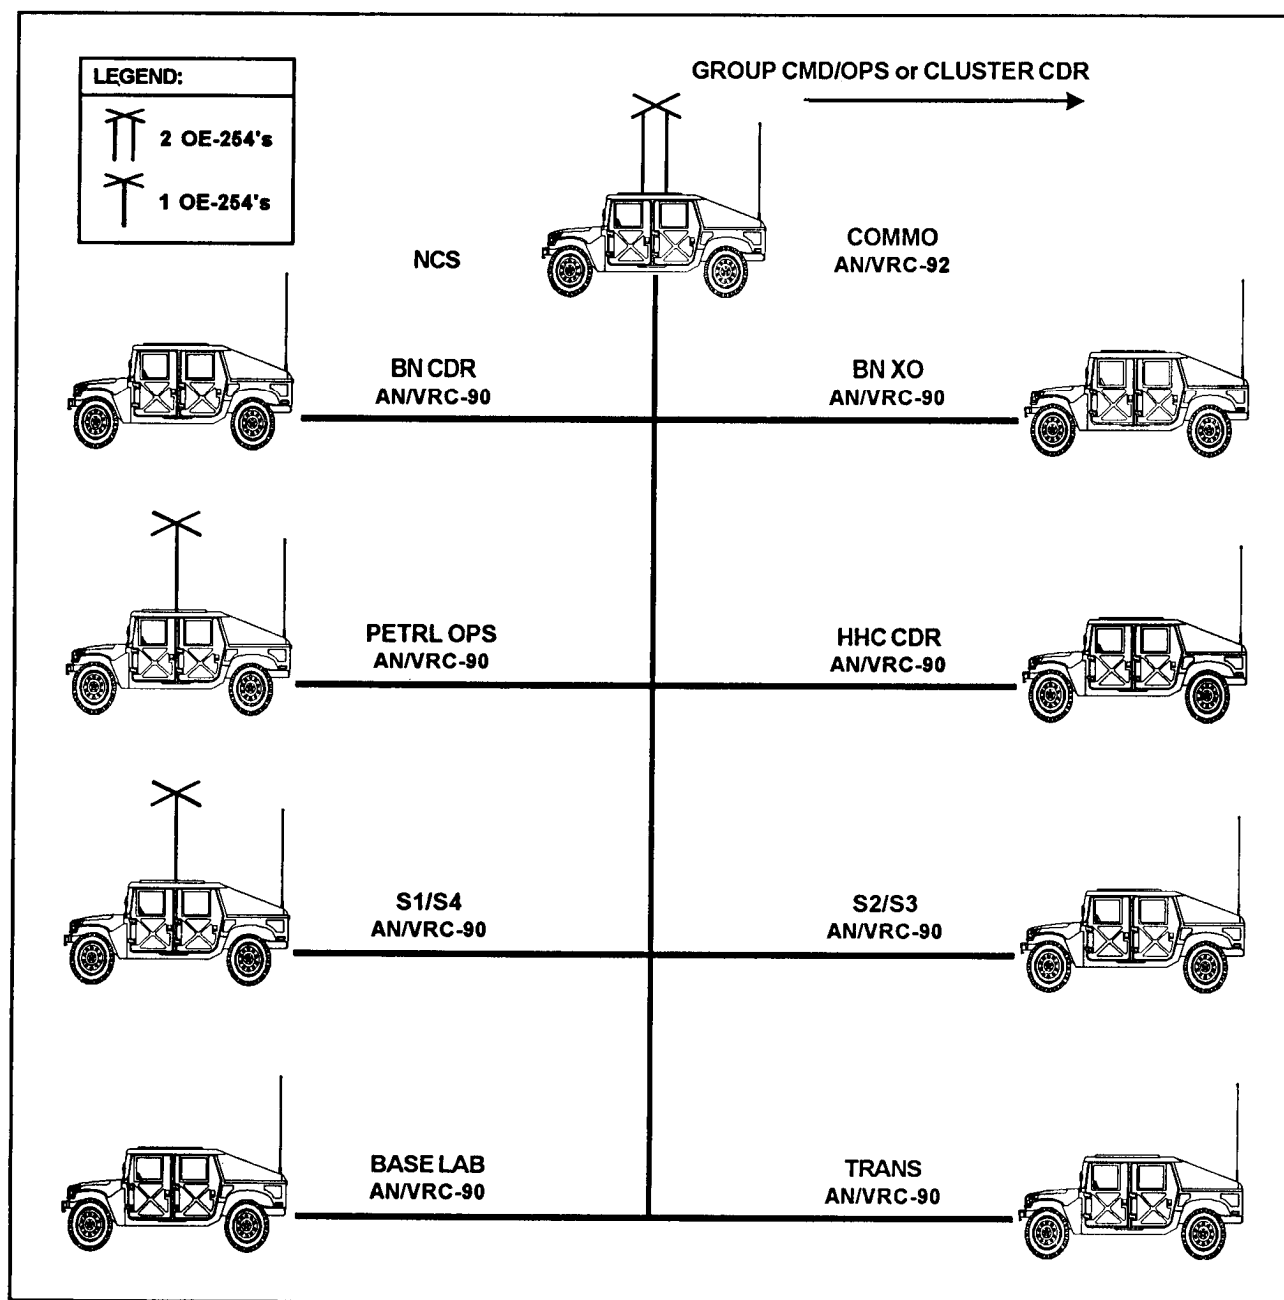

Figure 4-2. Petroleum group command/ops net (SINGARS)
- SINGARS. The unit is equipped with the AN/VRC-90 SINGARS FM radios as shown in figure 4-2. SINGARS is a new family of VHF-FM radios that replace the old FM AN/VRC-12 series of radios. These radios provide the battalion with a tactical secure FM radio net for internal command and control and external base cluster defense coordination. These radios feature simple, quick operation using a 16 element keypad for push-button tuning. They are capable of short-long range operation for voice or digital data communications. The planning range is 8-35 kilometers. They operate in a jam-resistant, frequency-hopping mode that can be changed as needed. The NCS utilizes the AN/VRC-92 radio that is a dual long range system also capable of operating as a retrans system as mission dictates.